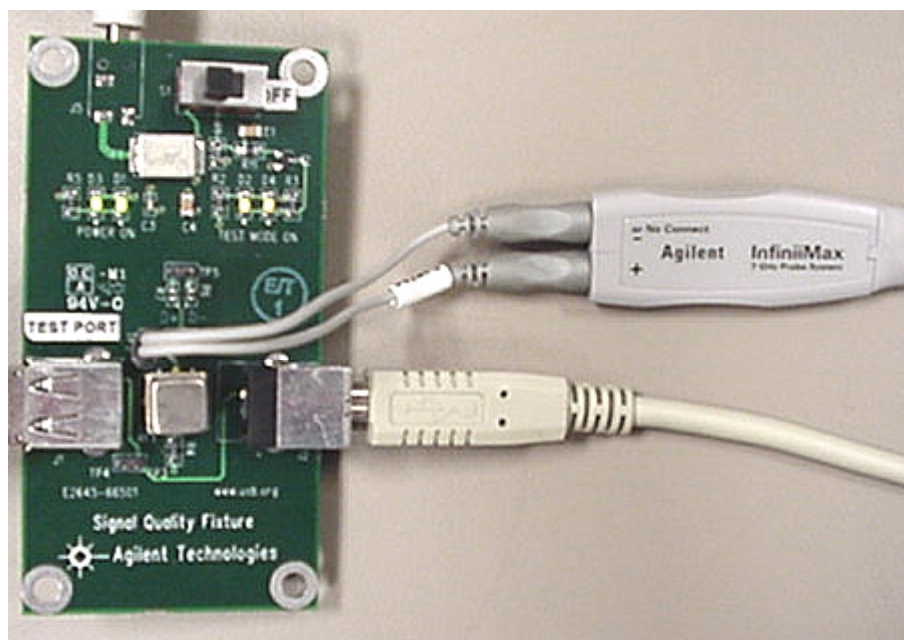

Figure 10: Differential Probe Connect on Device Test Fixture
- a. Ensure the + polarity on the probe lines up with D+, which is the pin nearest the USB connector. (Figure 10).